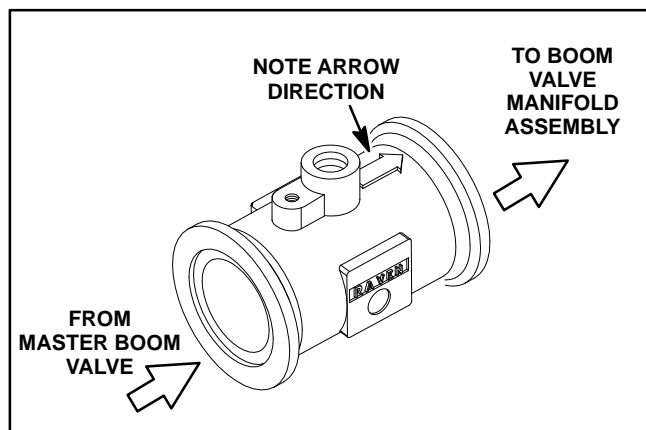

Figure 14
IMPORTANT: Note the direction of the arrow on top of flowmeter (Fig. 14). The arrow should point toward the boom valve manifold assembly.
1. Assemble flowmeter, clamps and new gaskets between boom valve manifold assembly and hose barb. Make sure that arrow on flowmeter body is pointing toward the boom valve manifold assembly (Fig. 14). Tighten flowmeter clamps.